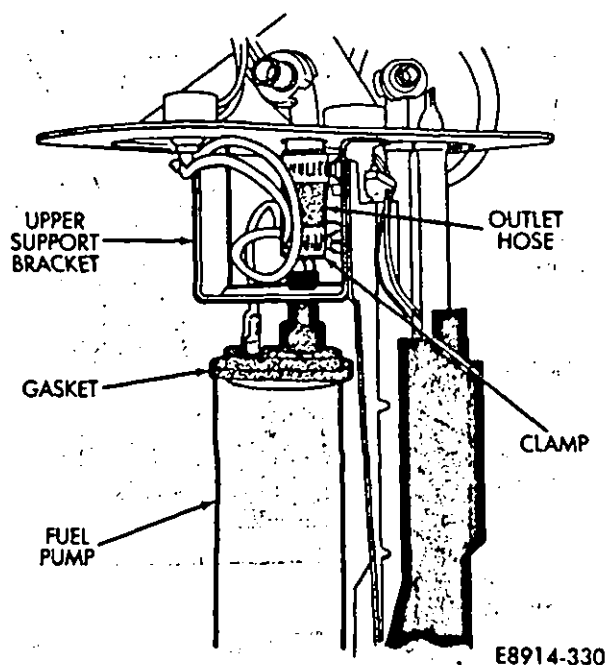

Fig. 22—Fuel Pump Installation
(1) Position gasket on top of fuel pump. Push the fuel pump up into outlet hose and upper support bracket. Secure the hose to the fuel pump with hose clamp (Fig. 22).